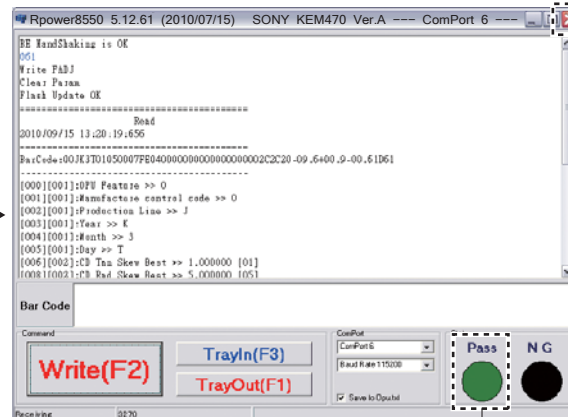

Fig. 9
- Click [Write (F2)] to start writing the OPU parameter. (Fig. 9)
When writing of the OPU parameter is completed, the "Pass" indicator lights green. (Fig. 9)